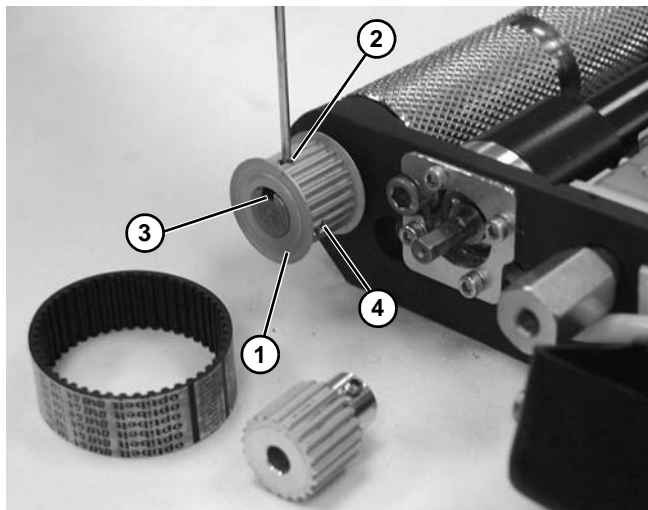

Figure 63
2. Install driven pulley (Figure 63, item 1) onto conveyor shaft until flush with spindle end. Line up longer set screw (Figure 63, item 2) on pulley over keyway (Figure 63, item 3) of shaft. Tighten set screw (Figure 63, item 2) and set screw (Figure 63, item 4) to 18 in-lb (7 Nm).